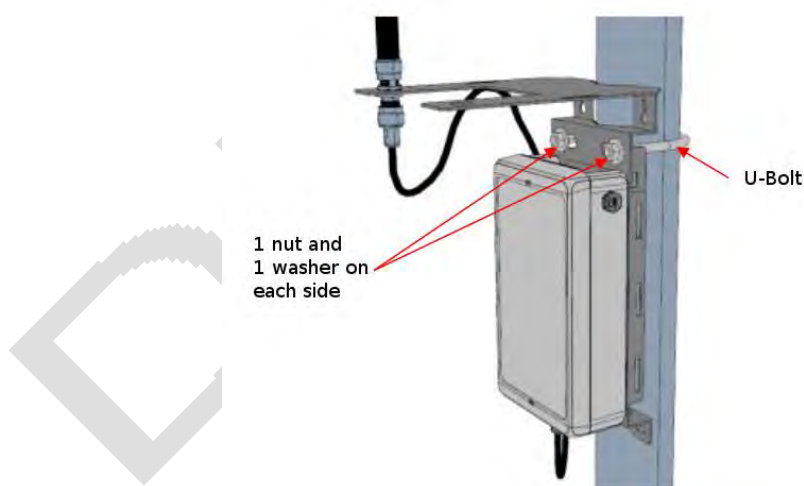

Figure 18: Gateway mounted in a pole.
- Pole mounting by U-bolt (Figure 18)